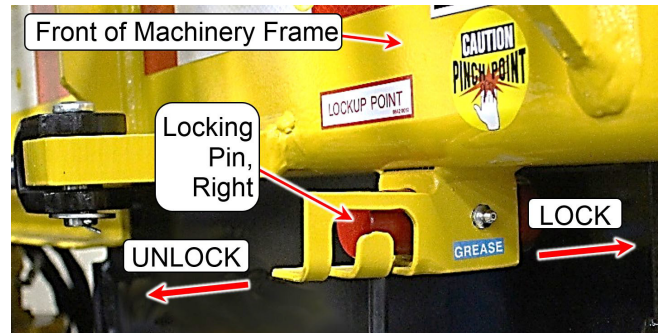

Figure 6-7: Traverse Locking Pin, Right
10. Exit the cab and insert the locking pin toward the rear of the machine. See Figure 6-7.